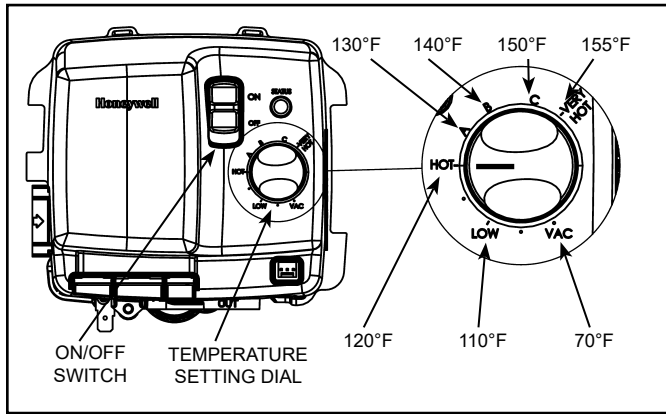

Figure 47.
This water heater is equipped with an adjustable thermostat to control water temperature (see Figure 47). Hot water temperatures required for automatic dishwasher and laundry use can cause scald burns resulting in serious personal injury and/or death. The temperature at which injury occurs varies with the person's age and time of the exposure. The slower response time of children, aged or disabled persons increases the hazards to them. Never allow small children to use a hot-water tap, or to draw their own bath water. Never leave a child or disabled person unattended in a bathtub or shower.
The thermostat settings on the gas control valve are shown in Figure 47.
1. Turn the thermostat on the gas control to the lowest setting. If the heater is running, wait for it to shut down (see Figure 47).